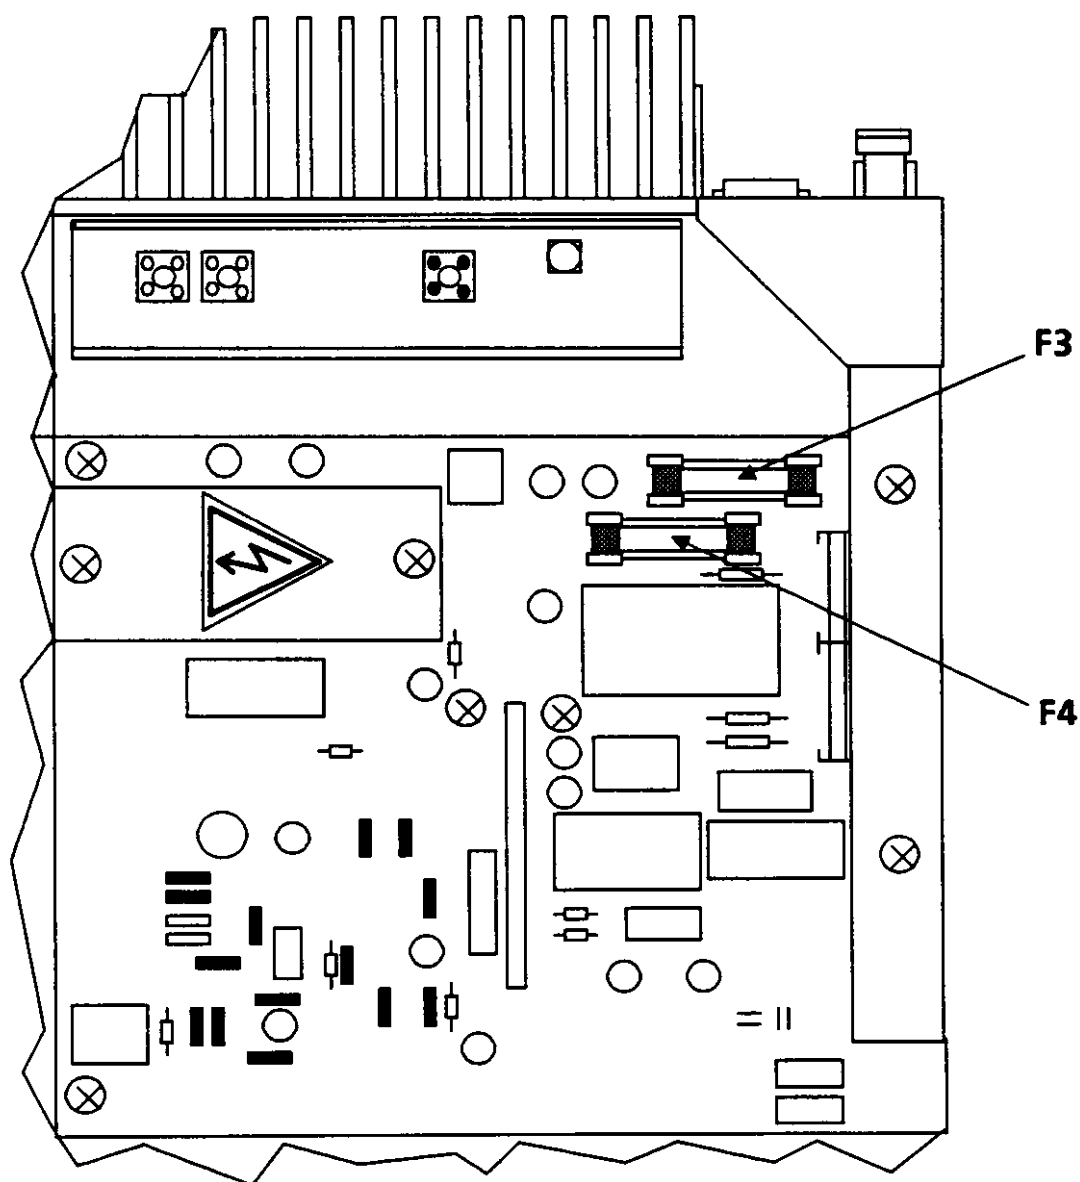

Fig. 4.2 Replacement of Internal Fuses (Option IN 251A)
1. Disconnect mains and battery cables from VHF Transceiver XU 221. holders acc. to Fig. 4.2 by means of screw driver and replace.